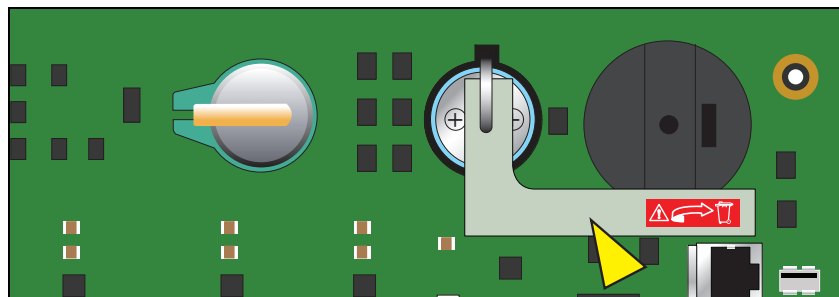

Figure 14. Remove TLS-450PLUS CPU Board Battery Isolator Strip
17. Remove the battery isolator strip from under the battery hold-down clip (see Figure 14).